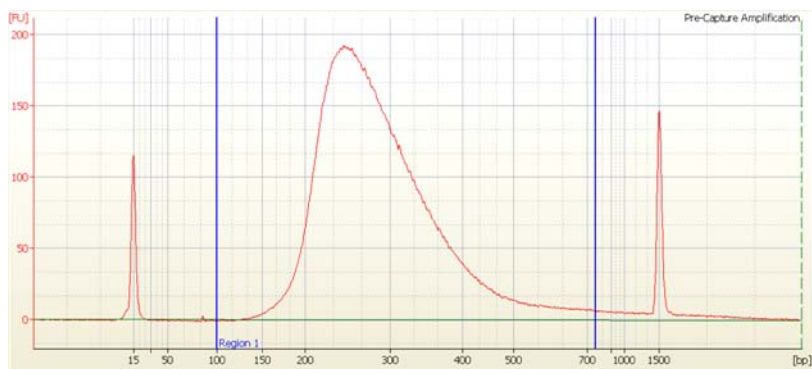

Figure 8 Analysis of amplified library DNA using a DNA 1000 assay. The electropherogram shows a single peak in the size range of 250 to 275 bp.
- 6 Verify that the electropherogram shows an average DNA fragment size of 250 to 275 bp. A sample electropherogram is shown in Figure 8.